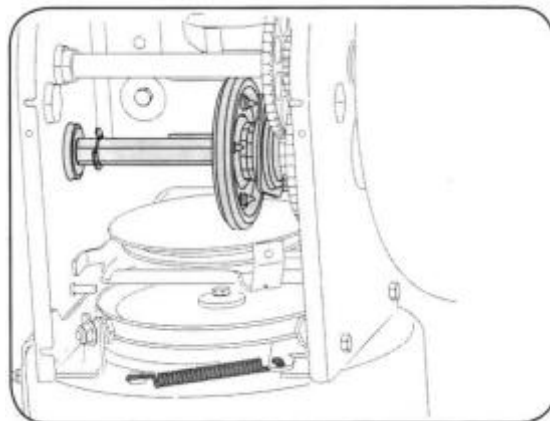

Figure 18
2. Apply a light coating of an all-weather multi-purpose grease to the hex shaft. See Figure 18.